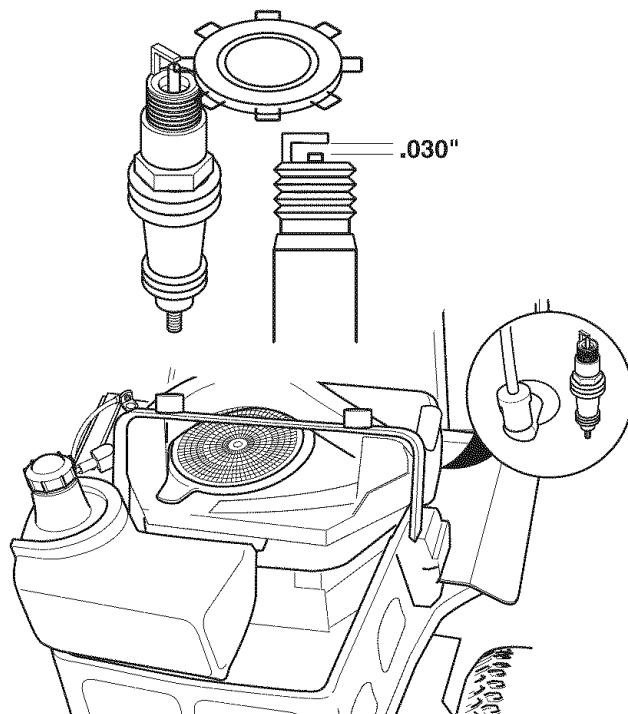

Figure 27. Spark Plug Gapping
4. Check the spark plug gap. The gap (new or used plug) should be .030" (see Figure 27).